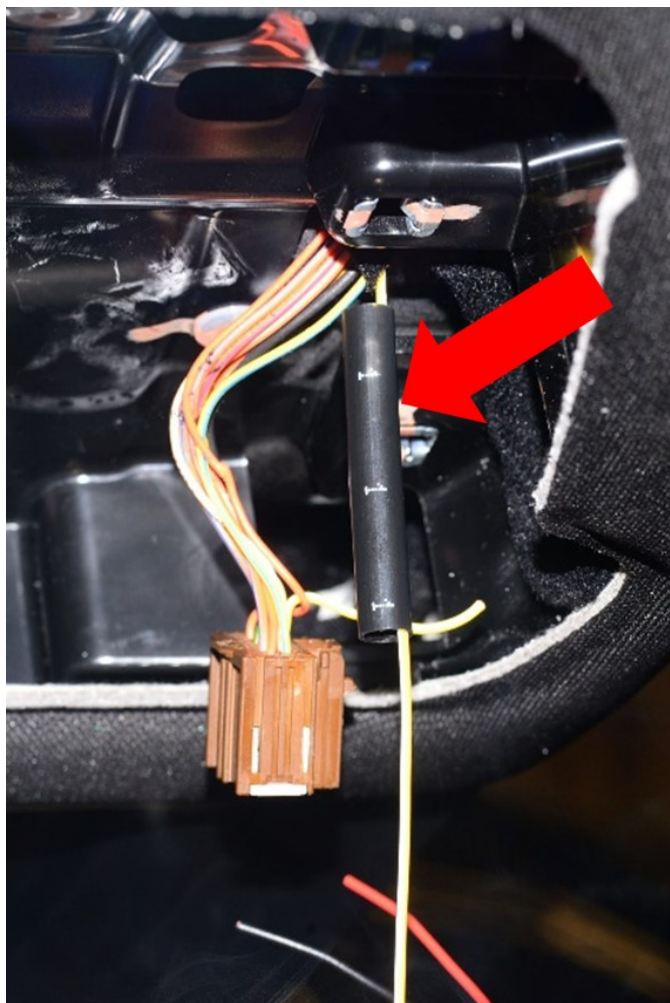

Fig. 3
10. Position heat shrink onto one of the yellow/white wire wires and connect the yellow/white wire from the dome lamp wiring harness, to the yellow/white wire on the jumper wiring harness Fig. 3. **Do not heat the heat shrink tubing.**